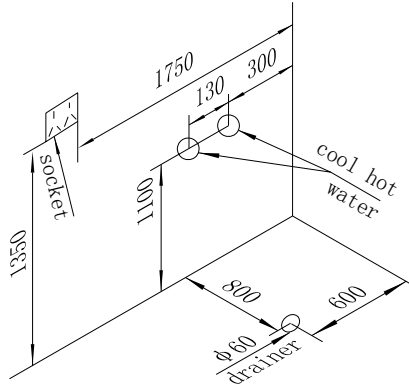

Fig. 1
1) User firstly should install inlet tubes for cool and hot water, and install the drainpipe, three-hole outlets etc. As fig. 1.
- 10) Join the cold and the hot water pipes and the wire connector; connect the drainpipes of basin and the steam pot to the outlet. (See the waterway sketch and fig.1)